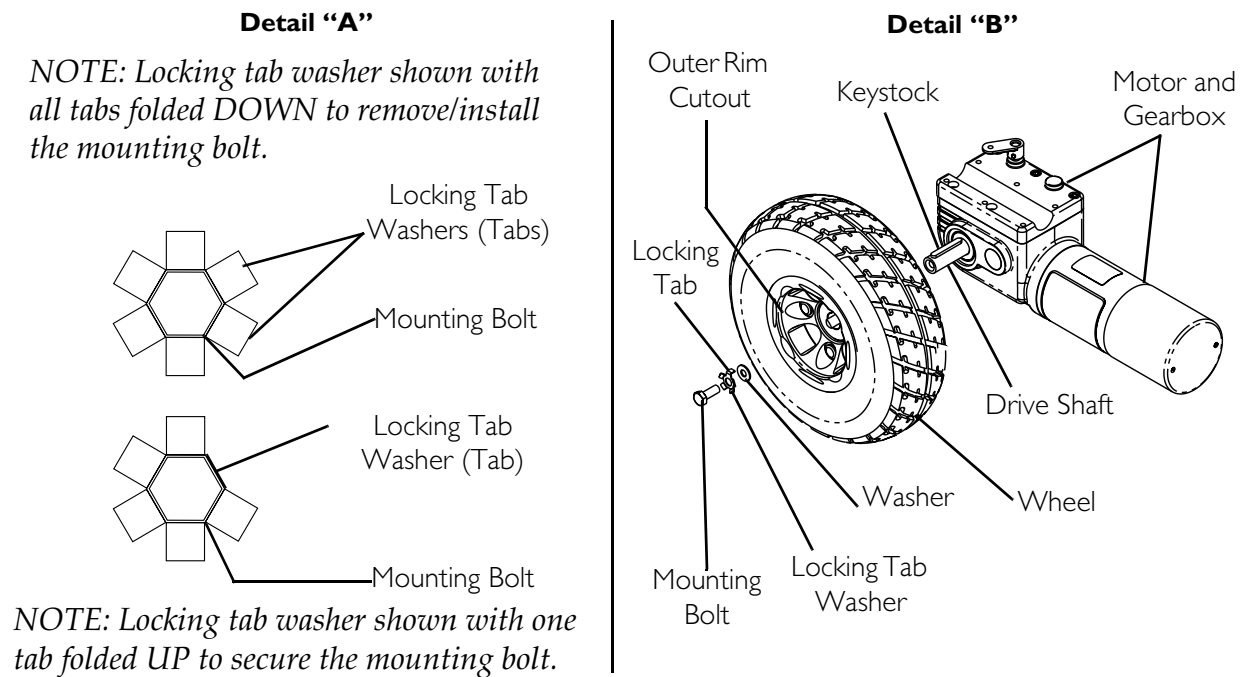

FIGURE 6.5 Removing/Installing the Drive Wheel
NOTE: For this procedure, refer to FIGURE 6.5 on page 64.
1. Fold down tab of existing locking tab washer (Detail “A” of FIGURE 6.5).
2. Remove mounting bolt and locking tab washer (Detail “B” of FIGURE 6.5). Discard existing locking tab washer.
NOTE: Ensure keystone is in the cutout on the drive shaft (Detail “B” of FIGURE 6.5). The keystone MUST line up with the wheel hub cutout.
2. Align the keystone in the drive shaft with the cutout in the wheel hub and position the wheel on to the drive shaft (Detail “B” of FIGURE 6.5).
NOTE: The locking tab of the locking tab washer MUST be inserted into the cutout in the rim and hub (Detail “B” of FIGURE 6.5).
3. Using the mounting bolt, washer and new locking tab washer, secure the wheel to the drive shaft (Detail “B” of FIGURE 6.5).
4. Fold one tab of the locking tab washer UP so that the tab rests against one side of the mounting bolt (Detail “A” of FIGURE 6.5)